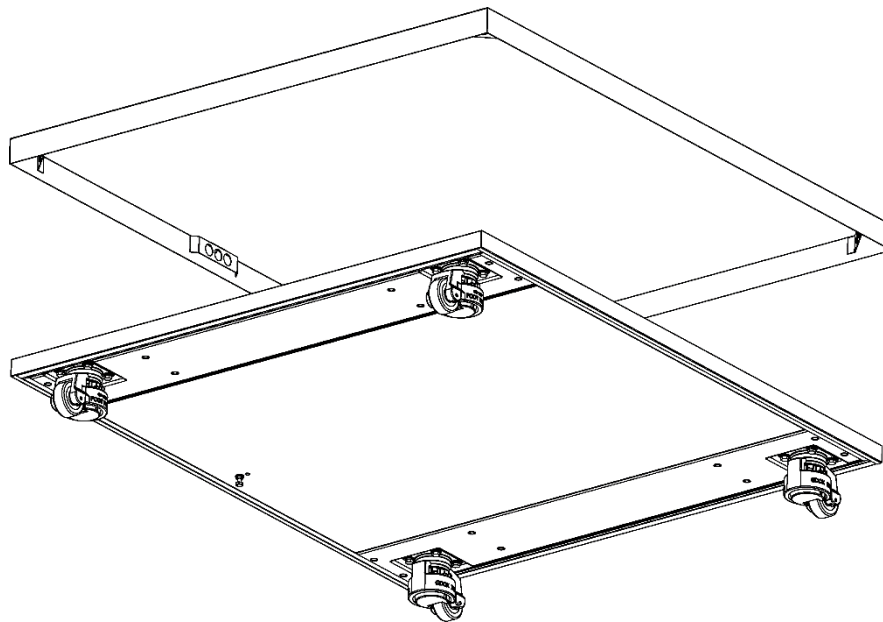

Figure 15. Double X55GWB Oven Base/Top Kit P/N: 77649
1. Install the four leg extensions onto the base pad using the 1/2"-13 x 1-1/4" hex screws, 1/2" flat washers and 1/2" lock washers supplied in the base pad kit. See Figure 15. Check that the orientation of the adjustable 6" leg holes in the leg bottom is consistent (all to the inside or all to the outside). The adjustable leg mounting hole is closer to the edge of the leg than the caster mounting hole. Install the spring clip for the oven restraining cable to the hole in the bottom middle of the base pad. This clip will attach to the restraint cable that keeps the oven from moving too far when installed on casters.